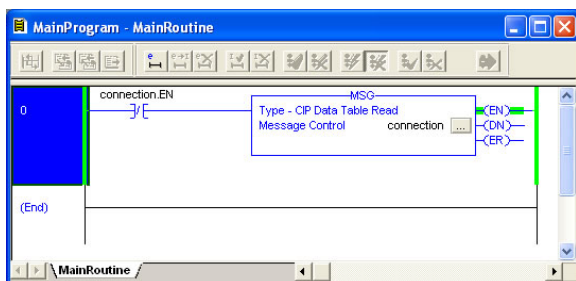

Figure 111: Complete Program
**6) The program is now complete. Refer to Figure 111.**